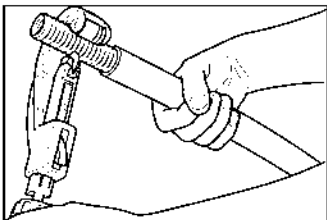

Figure: 4-52
- Using the tubing cutter, trim corrugated pipe to strip length specified in Table: 4-8. Cut slowly in the root of the corrugation in the same manner you would cut copper tubing. Inspect end of pipe for a clean cut without tears in corrugation. Figure: 4-52.